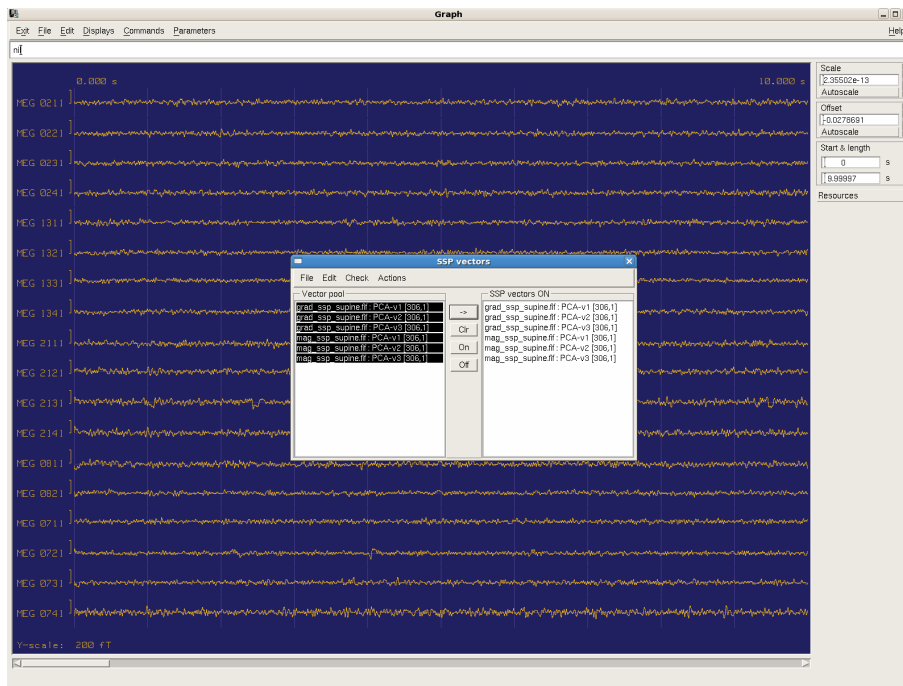

Figure 54: Select Commands ->SSP dialog to load and activate the SSP vectors.
- Select vectors on the left panel of the **SSP vectors** dialog and click the arrow (**->**) button to make them active (Figure 54). The vectors can be turned on and off using the buttons **On** and **Off**. The label on the right column then indicates SSP vectors ON or SSP vectors OFF.